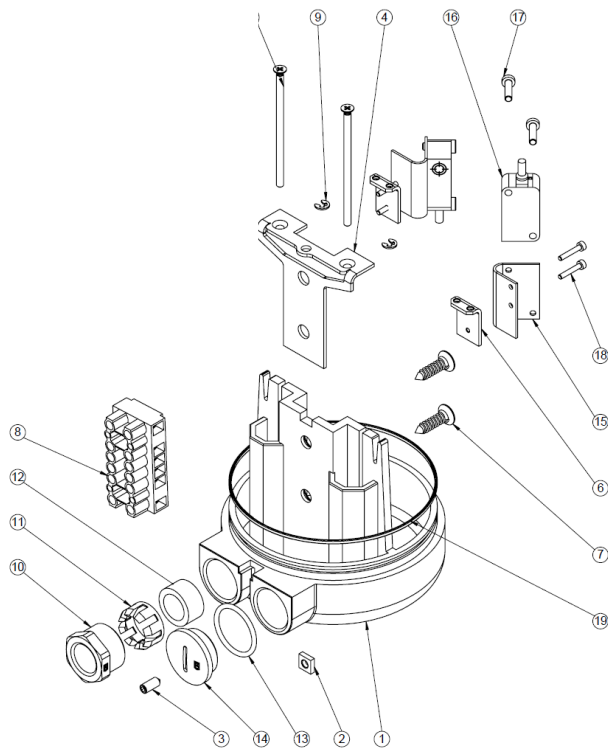

Figure 3 Exploded view of 024.86/024.87
- Check position of the sealing ring (pos. 15 in Figure 2 resp. pos. 19 in Figure 3)